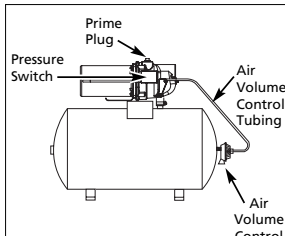

Figure 4 - Horizontal Tank
**SHALLOW WELL PUMP WITH CONVENTIONAL STORAGE TANK (FIGURES 4 & 5)**
- Remove prime plug (Figure 4 or 5).